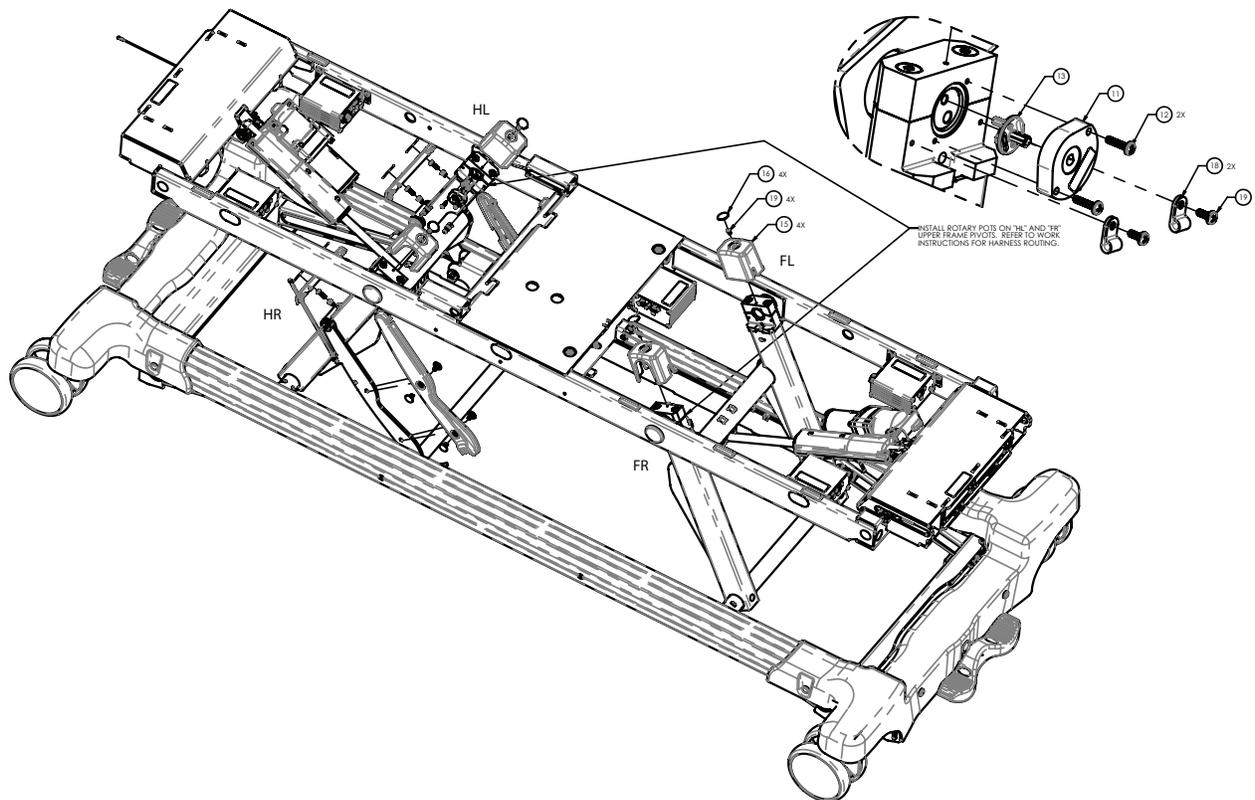

Figure 33 – Potentiometer replacement
7. Use a pick to remove the round label (16) on top of the lift arm cap (Figure 33).
8. Using a #2 Phillips stubby screwdriver, remove and save the screw (19) that secures the cap to the lift arm (Figure 33).
9. Using a #2 Phillips screwdriver, remove and save the screw (19) that secures the p-clamp (18) and potentiometer cable to the lift arm (Figure 33).
10. Using a #2 Phillips screwdriver, remove and save the two screws (12) that secure the potentiometer (11) to the lift arm (Figure 33).
11. Pull the cable out of the lift arm tube and unplug and remove the potentiometer (11).
12. Remove and save the potentiometer gear (13) from the potentiometer (11) and discard the potentiometer (Figure 33).